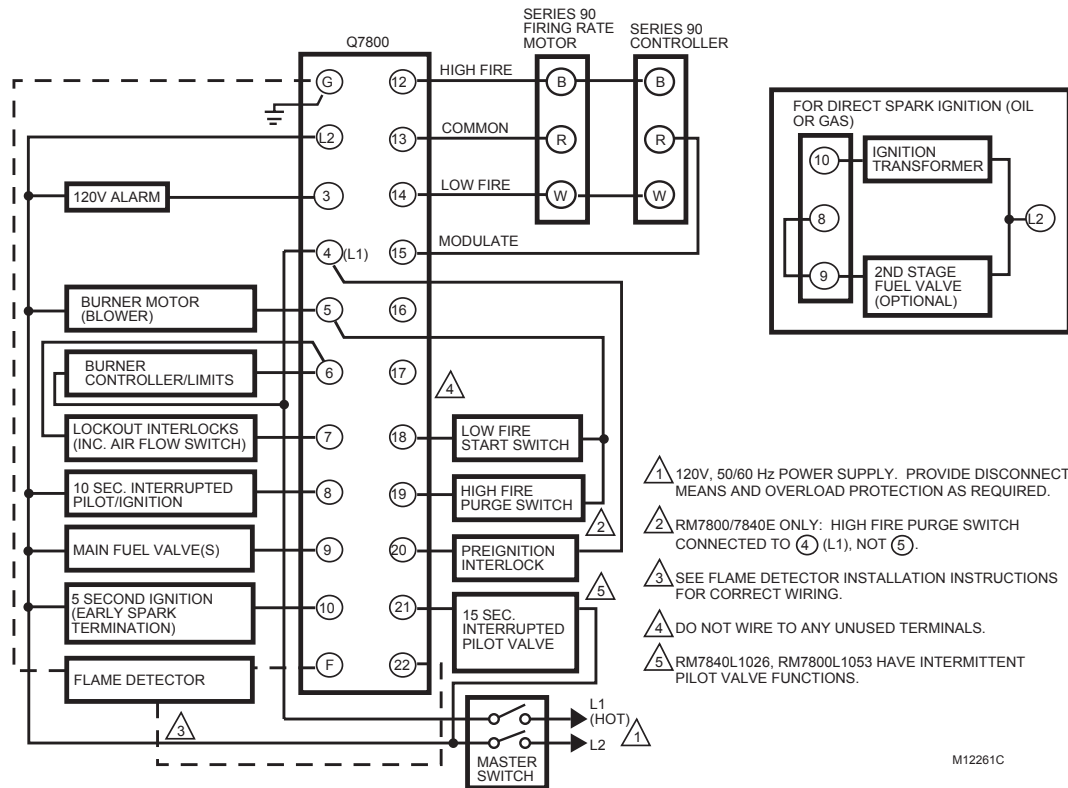

Fig. 2. Wiring subbase and sequence for RM7800E,L/RM7840E,L.
1. For proper subbase wiring, refer to Figs. 2, 3, 4 or 5.
The RM7800/RM7840 has the following operating sequences, see Fig. 2, 3, 4, and Table 6. The RM7800/RM7840 LED provide positive visual indication of the program sequence: POWER, PILOT, FLAME, MAIN and ALARM.